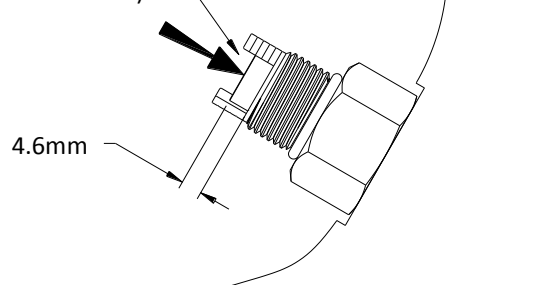

Figure 5
* Each band corresponds to 20% brake wear. Refer Figure 1 and Figure 5.